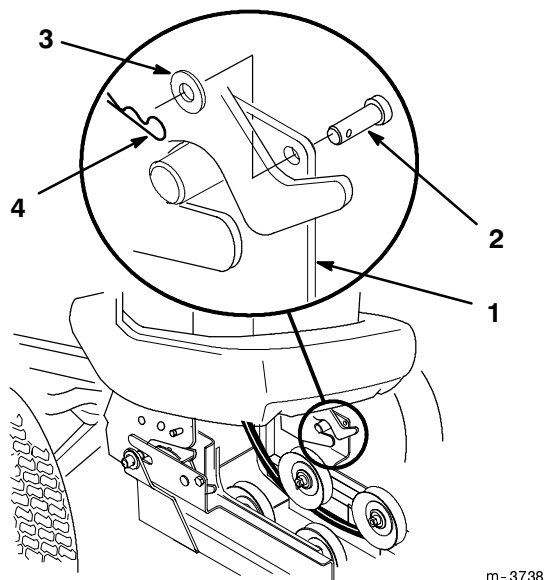

Figure 11
5. Install (2) 1-3/8" (35 mm) long clevis pins into the locking holes of the pulley box. Secure them with (2) 5/16" (8 mm) flat washers and (2) hairpin cotters on the inside (Fig. 11).